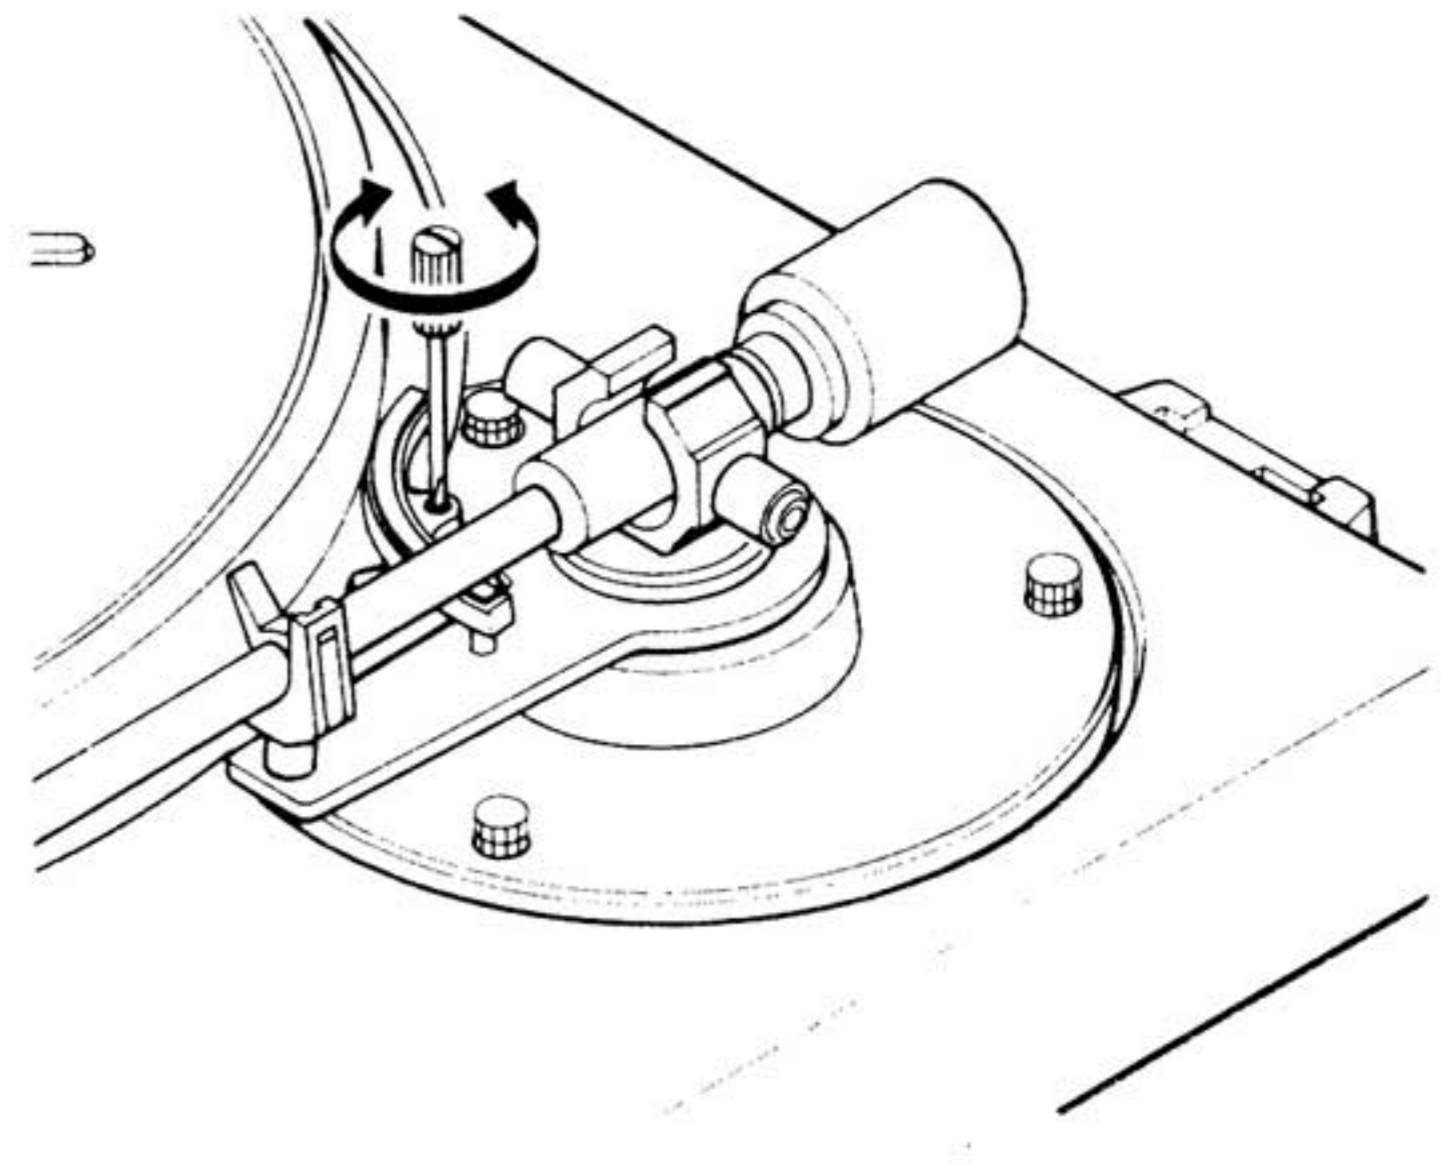

Fig. 18
- Turn Support Arm Shaft until the space between the stylus tip and the disk surface becomes 4.0 ± 0.7 mm or the space between the stylus tip and the turntable becomes 9.0 ± 0.7 mm. (Fig. 18)